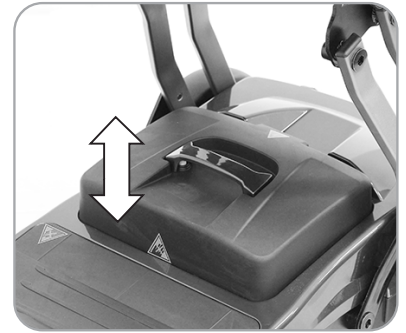

Figure 27
- Each battery box contains one lithium battery or (2) lead-acid batteries (optional).
- To remove the battery box from scooter, grab the battery box handle, and pull it upwards as Figure.27 shown.